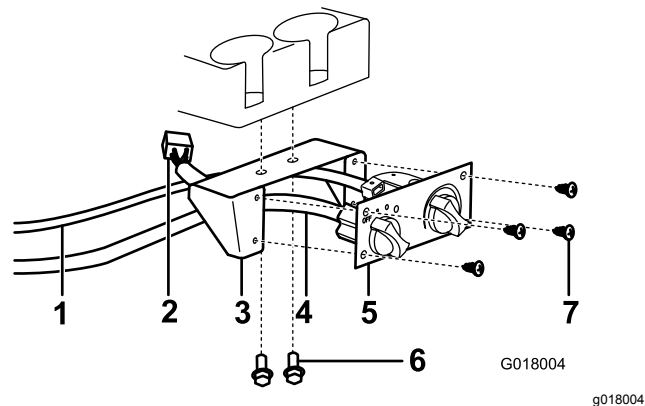

Figure 23
5. Attach the heater-control mount to the dash under the cup holders with 2 flange-head bolts and nuts (Figure 23).
6. Connect the heater-control cable and black wire-harness connector to the heater control and the white wire-harness connector to the heater (Figure 23).
7. Attach the heater control to the heater-control mount using 4 sheet metal screws (Figure 23).